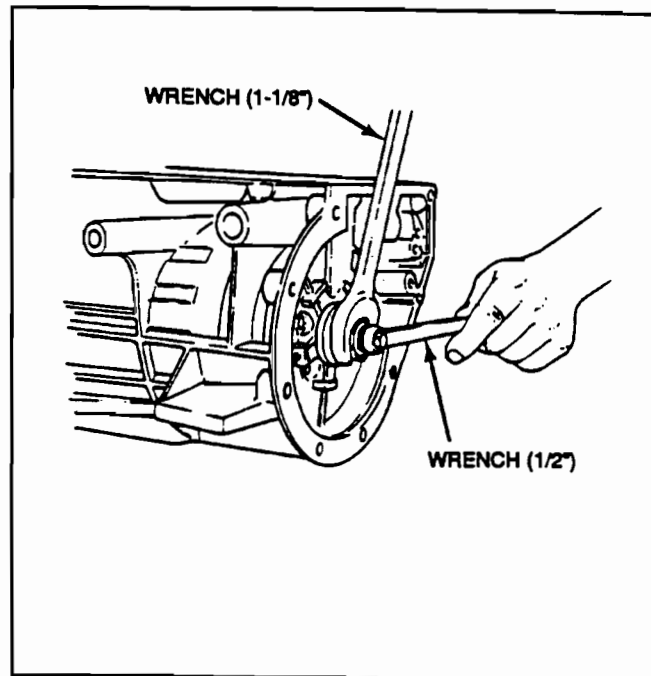

Figure 18
10. Hold the drawbar with a 1/2" (12.7mm) wrench, while turning the nut with another 1-1/8" (29mm) wrench as shown in Figure 18.